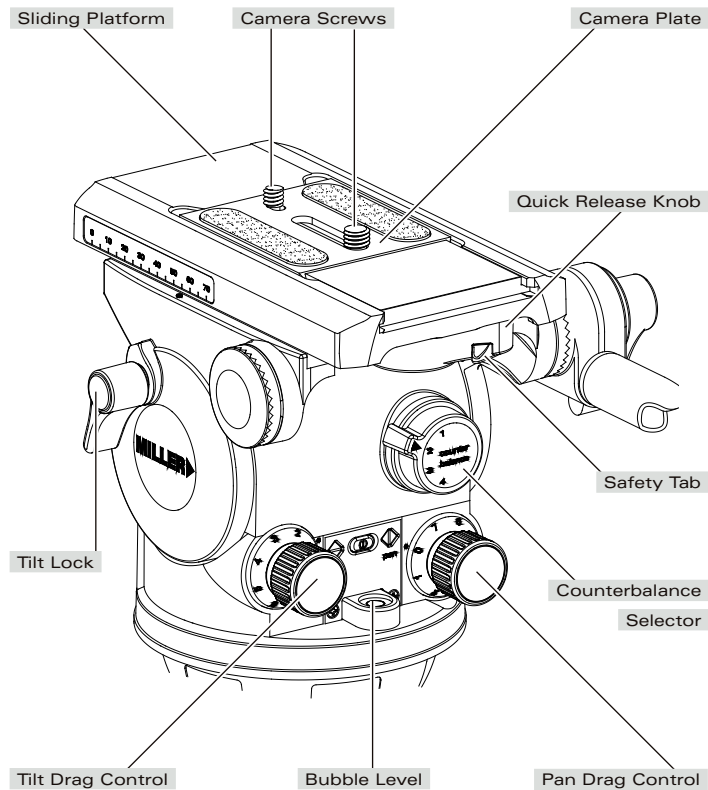

Fig. 1
- 1.3 Set the initial control settings as follows – see Figure 1 & 2:
- 2.5 Align the CAMERA PLATE with the SLIDING PLATFORM (fig. 1) and slide it in until the safety mechanism is engaged.
The counterbalance system was designed to neutralise the effect of the camera weight when it is tilted. The Arrow 40/55 Fluid Head offers a 4 position counterbalance system which can be operated via the COUNTERBALANCE SELECTOR (fig. 1). The COUNTERBALANCE SELECTOR must be operated when the SLIDING PLATFORM is in a horizontal position. After changing the Counterbalance setting it may be necessary to tilt the camera back and forth to ensure that the CB spring has engaged. The camera must be held securely while changing the Counterbalance setting.